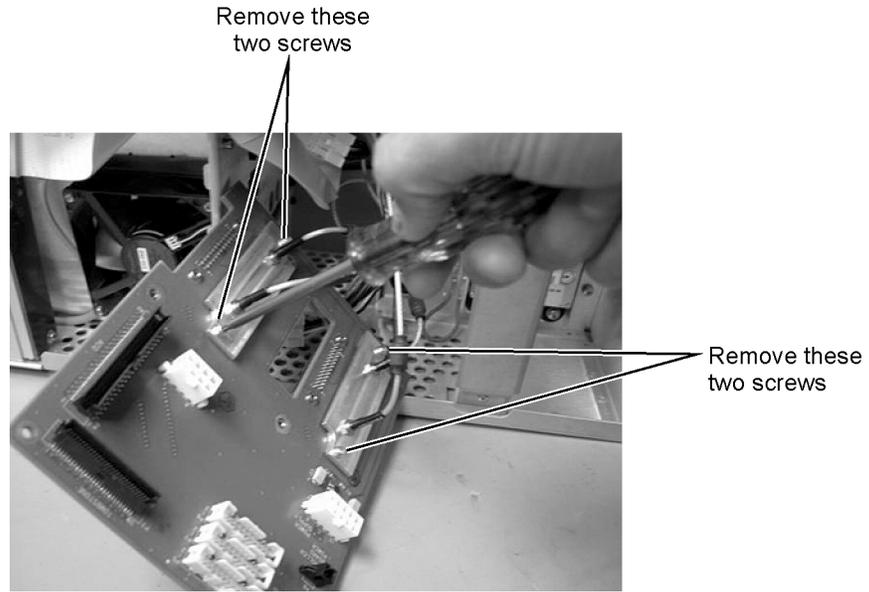

Figure 4-67. Removing the Screws from the A6 Bracket
- 7 Remove the two screws that secure each bracket, as shown in Figure 4-67.